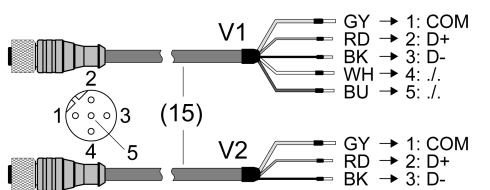

Figure 5: Connecting cable V1 and V2
- Due to a technical revision two different types of connecting cables might be included in delivery under art.-no. il LTGDXAL... (Figure 5).